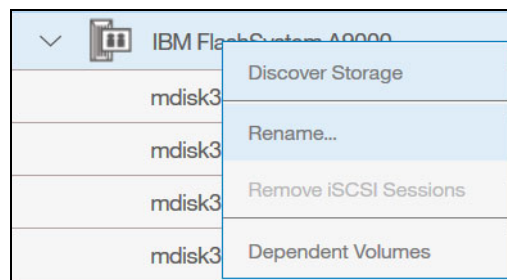

Figure 3-11 Renaming the controller
2. Rename the default controller in **Pools** → **External Storage** by right-clicking the controller and selecting **Rename**, as shown in Figure 3-11.